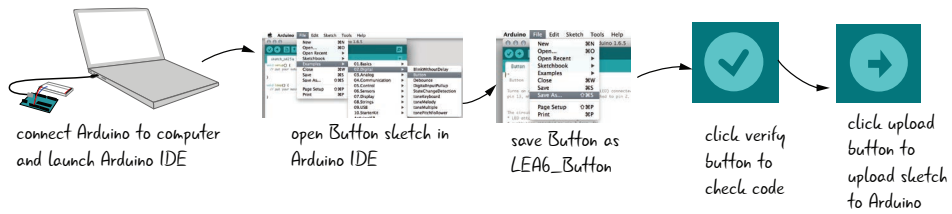

FIGURE 6.13: Procedure for getting code onto the Arduino
4. Click the Upload button to upload your code to the Arduino. This is all shown in Figure 6.13.